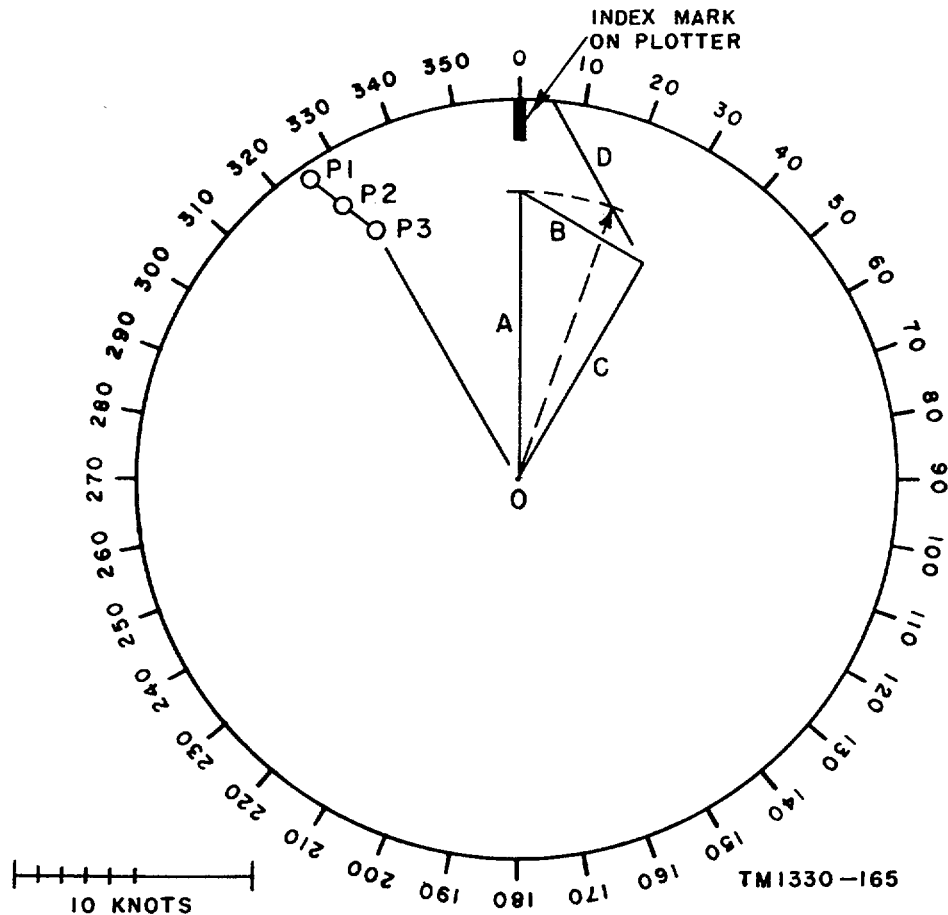

Figure 72. Radar plotting 5.
- (e) Figure 72 shows a plot used for determining your ship's course and time when intercepting another vessel. Assume your vessel is moving at a speed of 12 knots and the radar range in use is 8 miles. Points P_1 , P_2 , and P_3 represent plots of the vessel to be intercepted, made at intervals of 10 minutes. Proceed as follows: